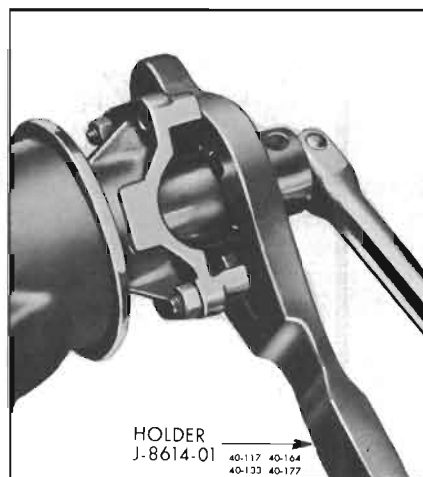

Figure 40-164 46-48000 Removing Pinion Nut
2. Install Holder J-8614-01 on pinion flange using two 5/16-18 x 2 bolts with flat washers. (On 49000, install Holder J-8614-01 on pinion flange using Adapters J-21619.) Remove pinion nut using a 5/16 (3/4 drive) socket on Handle J-6246. Remove washer. See Figures 40-164 and 40-165.